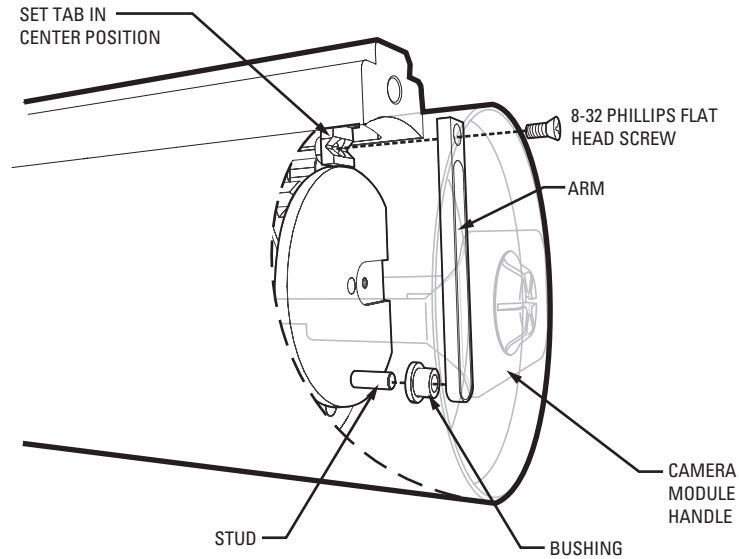

Figure 8. Install Wiper Arm
4. Refer to Figure 8 and do the following to install the arm of the wiper:
- a. Place the supplied green bushing on the stud located behind the handle of the camera module. The bushing should be in the same orientation as shown in Figure 8.
5. Secure the arm of the wiper and the camera module with the supplied 8-32 Phillips flat head screw (refer to Figure 8).